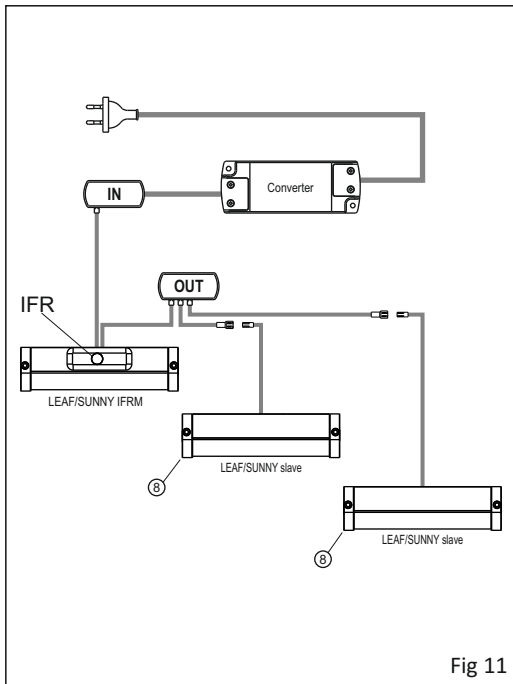

Fig 11
The **LEAF-SUNNY SLAVE** (8) is a switch-free spotlight, then it must be turned on via a remote switch that can be placed on the **LEAF-SUNNY IFRM** (wired in the MASTER version) as shown in figure 11 or it can be assigned to a separate switch connected to the primary of the converter as shown in figure 12, or to a remote socket where to connect the converter.